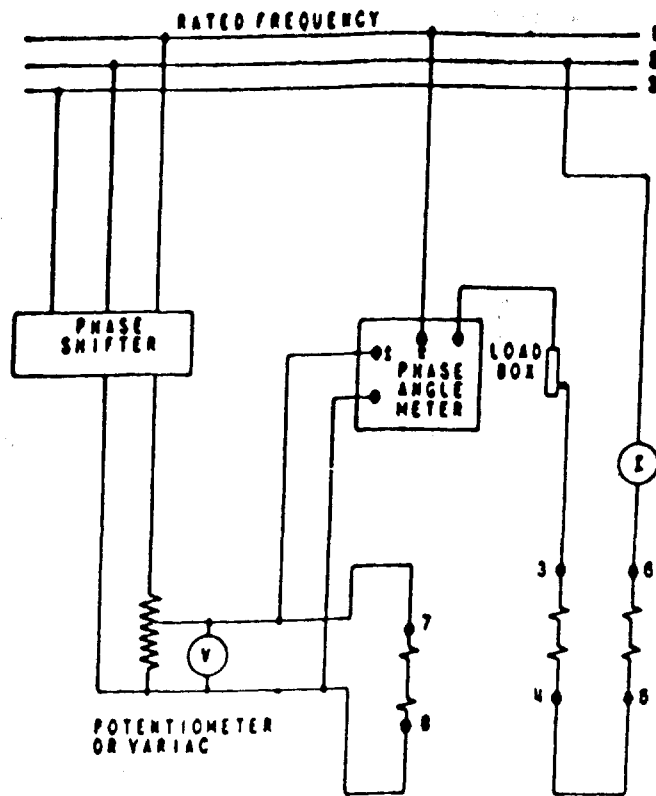

Fig. 6 (362A501-3) Test Connections For Type CEH11A Relay
1. Connect as shown in Fig. 6. Allow relay potential coils to warm up by energizing at rated voltage for 15 minutes prior to testing.